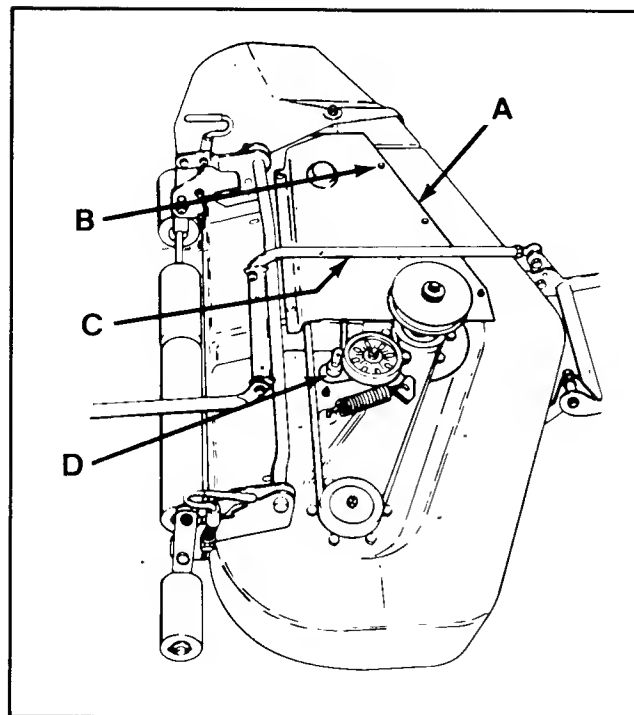

FIGURE 12 - Idler Pulley Pivot
3. Remove the tapite screws to remove the right hand cover (both covers can be removed to check-clean inside of mower deck). See Figure 12.